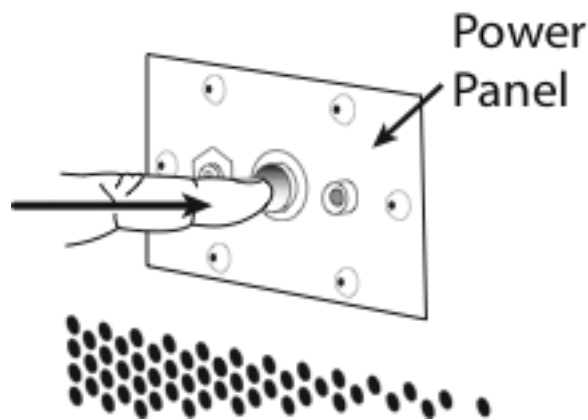

Fig. 6
11. Depress the power switch to the ON position as in Fig. 6. Though the machine will be quite cool within 60 seconds, it may take five minutes for the machine to cool maximally.